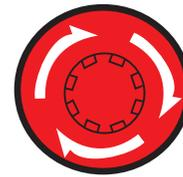

Figure 38. Emergency Stop Button
1. If equipped (option), push the **Emergency Stop Pushbutton Switch** (Figure 38).